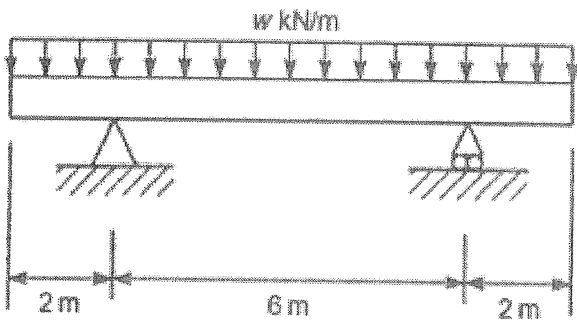

Fig. Q1 (a)
- Q1. A girder beam used to support a bridge deck is 10 m long and simply supported over a span of 6 m. Schematic view of an idealized girder beam is shown in Fig. Q1(a). The piers of the bridge are positioned in such way that the girder beam is overhang at both ends and carries a uniformly distributed load (udl) of  $w$  kN/m over the entire length. The proposed cross section to be used for the above girder beam is a composite section as shown in Fig. Q1(b).